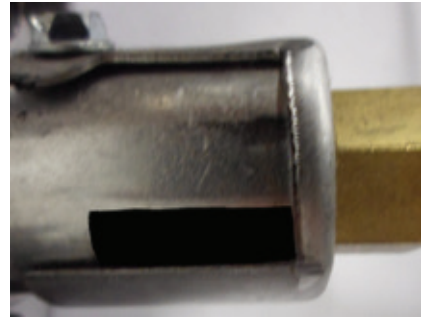

Figure 4 (1/4-inch opening shown)
1. Ensure the air shutter is set to the specification. See Figures 4 to 6 on this page and Tables 1 and 2 on page 8.
LP Gas Models - The air shutter setting must be 1/4-inch. (See Figures 4, 5, and Table 1 on Page 8)